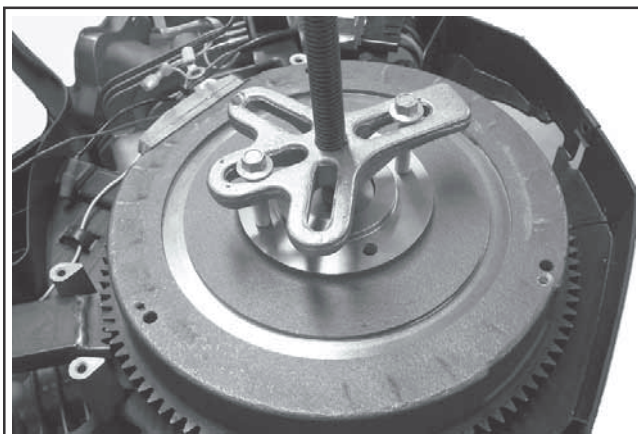

Figure 8-31. Removing Flywheel with a Puller.
3. Use a puller to remove the flywheel from the crankshaft. See Figure 8-31.